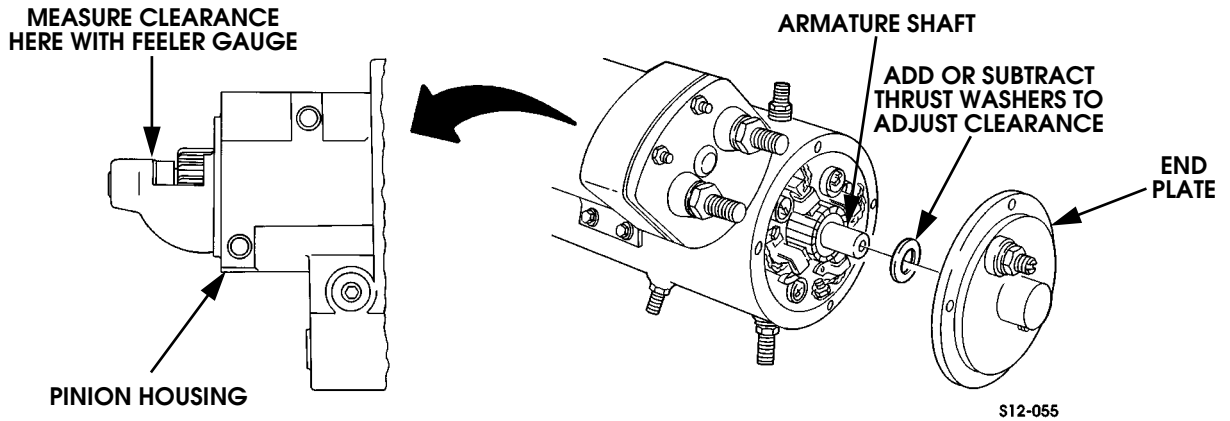

Figure 12-32: Starter Pinion Clearance Measurement and Adjustment
2. Check clearance between pinion and snap ring with feeler gauge (Figure 12-32).
4. Pinion clearance should be 0.005-0.030 in. (0.127-0.762 mm). If adjustment is necessary, remove end plate and add or remove thrust washer(s) (Figure 12-32).